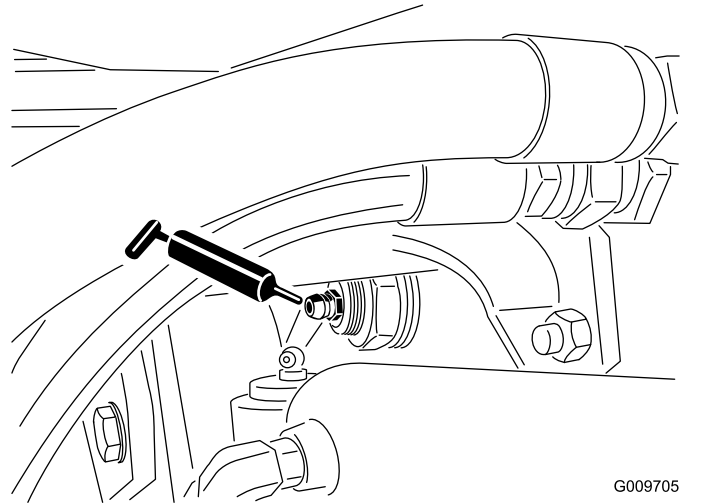

Figure 39
- Rear-axle-pivot bushings (2) as shown in Figure 39